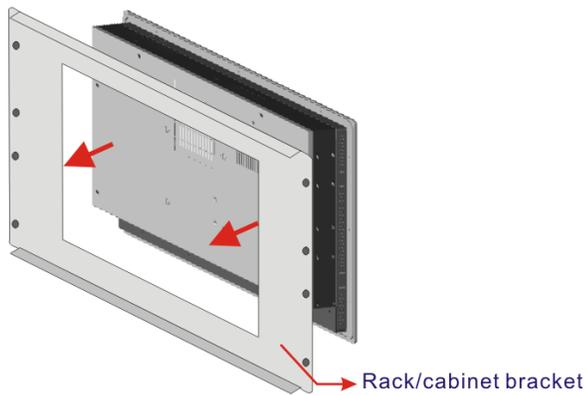

Figure 4-30: The Rack/Cabinet Bracket
Step 1: Slide the rear chassis of the PPC-3708A-N270 flat panel PC through the rack/cabinet bracket until the aluminum frame is flush against the front of the bracket (**Figure 4-30**).